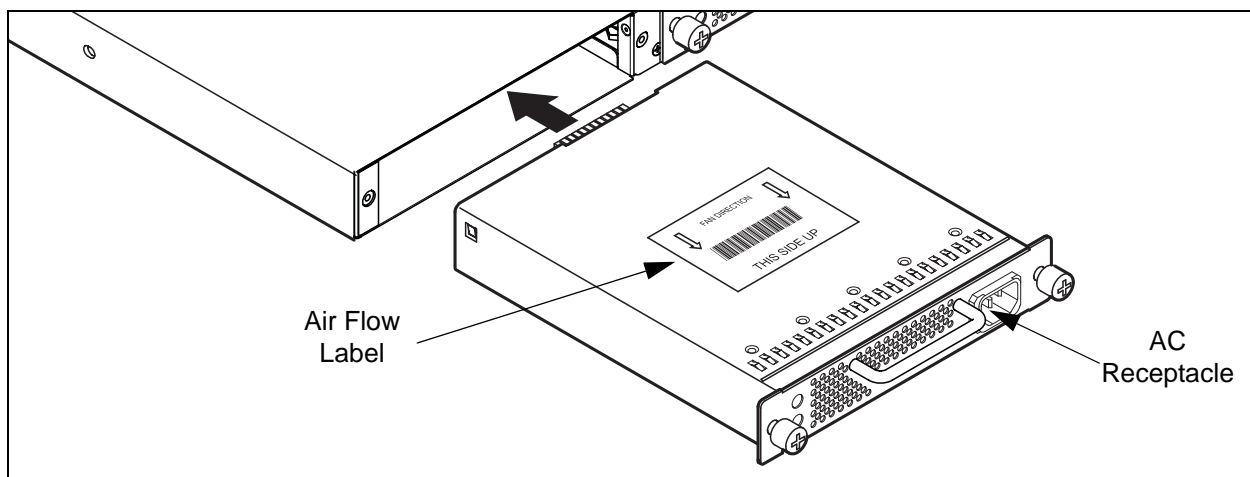

Figure 6-2 Power Supply Installation
2. Confirm that the new power supply is compatible with the switch air flow direction. The part number label on the power supply indicates the air flow direction as shown in Figure 6-2.